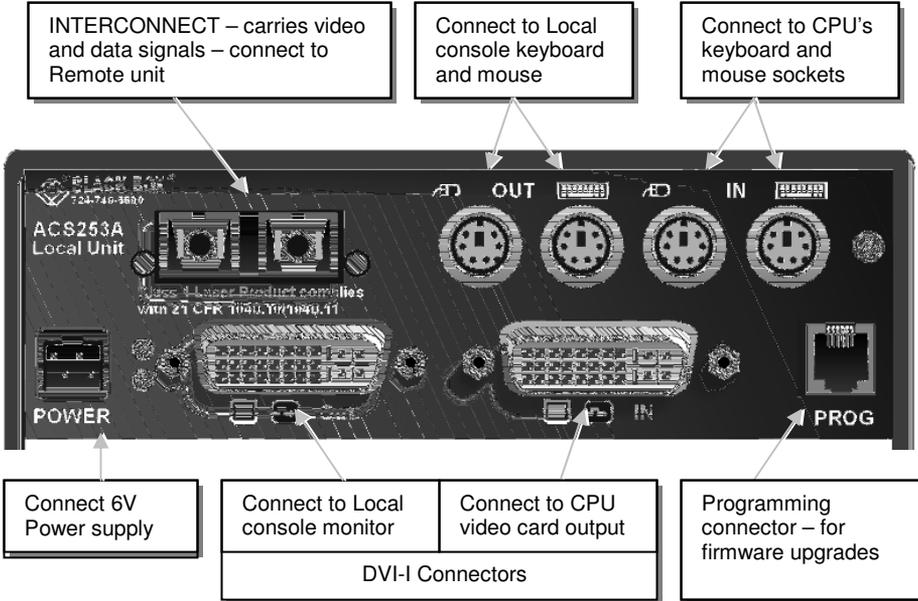

**Figure 3 ACS253A-CT Local Unit**
5. Using the supplied CPU KVM cable(s), connect the keyboard, monitor(s) and mouse connectors on the computer (or KVM switch) to the corresponding connectors on the Local unit as shown in Figure 3 (ACS253A-CT), Figure 5 (ACS253A-SM/MM) or Figure 7 (ACS253A-U-SM/MM).
7. Connect the Interconnection cable from the Remote unit to the INTERCONNECT socket on the Local unit as shown in Figure 3 (ACS253A-CT), Figure 5 (ACS253A-SM/MM) or Figure 7 (ACS253A-U-SM/MM).